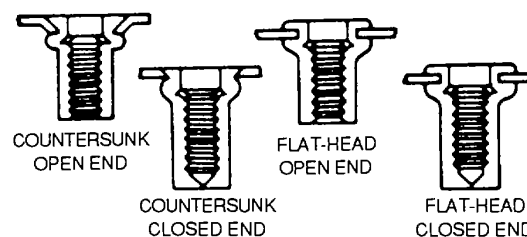

Figure 2-58. Rivnut Types
j. *Rivnuts.* Rivnuts are internally threaded and counterbored tubular rivets that can be headed blind in such applications as the attachment of deicing boots. These special rivets can be made of either 6053 aluminum alloy, carbon steel, alloy steel or corrosion resistant steel, with either flat or countersunk heads and open or closed ends, as shown in figure 2-58. Each rivet type is available in various thread sizes. An example of a typical part number is: NAS 1329H3K130L. NAS 1329 indicates the basic standard to which a rivnut conforms. The letter between the military specification number and the first dash number indicates material type and finish ("A" aluminum alloy, "S" for carbon steel, "H" for alloy steel, and "C" for corrosion-resistant steel). The first dash number, after the material type, indicates machine screw size of the thread. A dash following the machine screw size indicates open end keyless, "B" indicates closed end keyless, "K" indicates open end with a key, "KB" indicates closed end with a key. The final dash number indicates grip range in thousands of an inch. The presence of an "L" at the end of the part number indicates a thread locking feature.